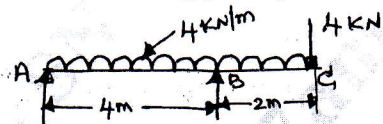

Fig.Q7(b)
- b. An overhanging beam ABC is loaded with material 4 kN/m , if it has span of 6 m as shown in Fig.Q7(b). Find the reactions at A and B using principles of virtual work.